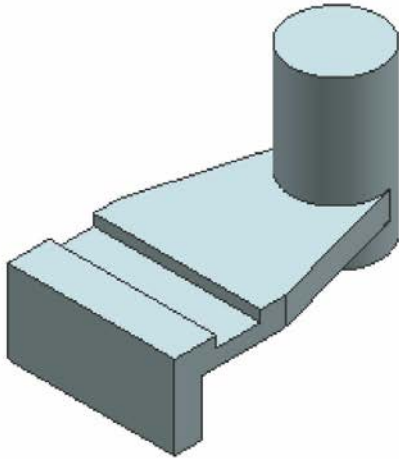

Figure 5-65 Model after creating the cylindrical feature
9. Change the current view to isometric view and then hide the sketch and the datum plane. The model after creating the cylindrical feature is shown in Figure 5-65.